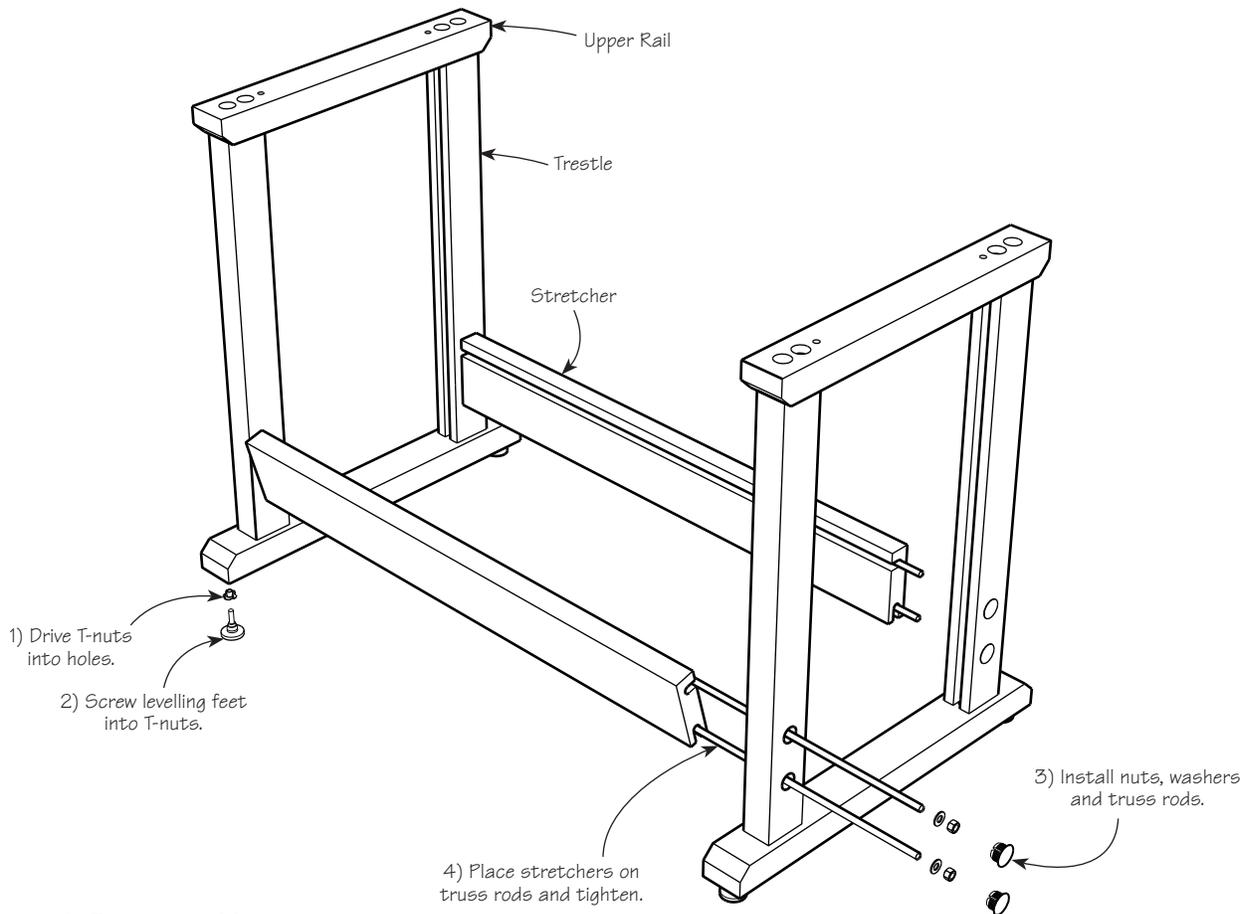

Figure 1: Base assembly.
3. Place one stretcher (both contained in the larger box) onto one pair of truss rods, as shown in **Figure 1**. Using a ratchet fitted with a 9/16" socket, tighten the hex nuts just enough to hold the stretcher in place. Repeat for the other stretcher.